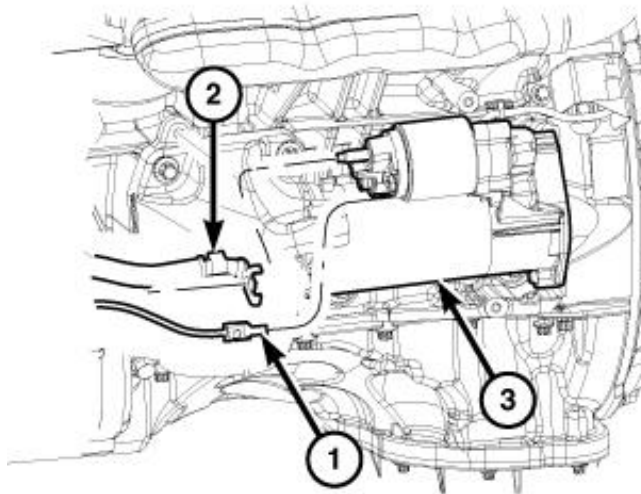

Figure 35 – Starter Connections
- 73. Remove the starter motor B+ connection (2) (Figure 35).
- 74. Disconnect the solenoid wire harness connector (1) (Figure 35).